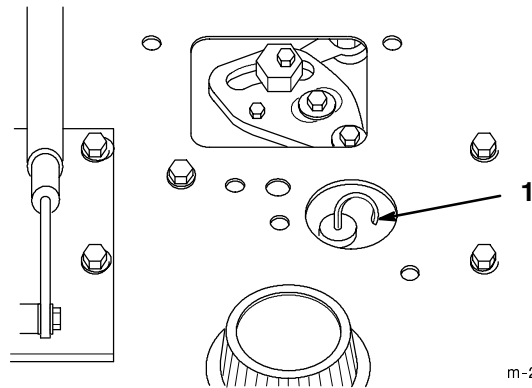

Figure 34
3. Clean around the transmission dipstick (Fig. 34) so dirt cannot fall into the filler hole and damage the transaxle.
4. Pull out the transmission dipstick and wipe the metal end clean (Fig. 34).
5. Slide the transmission dipstick fully into the filler tube (Fig. 18). Pull the dipstick out and look at the metal end. When transaxle is cold oil should be at the “Full” line on the dipstick (Fig. 34).
4. Slowly pour approximately 80% of the specified amount of oil into the filler tube (Fig. 34). Now check the fluid level; refer to Checking Transaxle Fluid Level, page 30. Slowly add additional oil to bring to “FULL” mark on dipstick.